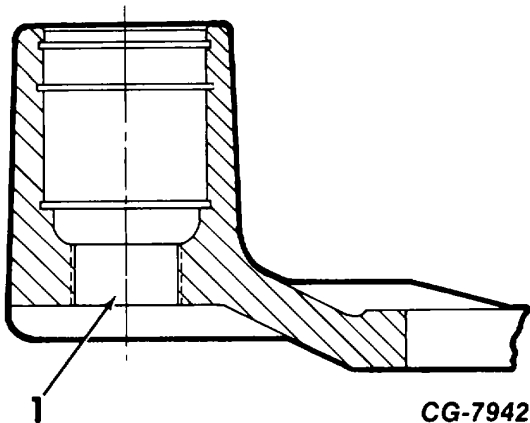

Figure 36. - Rework of Idler Bracket
1. To facilitate removal of the tool, the pipe plug hole (1, Fig. 36) in the idler bracket must be enlarged. Drill and tap hole with 5/16 inch drill to 3/4 inch NPT. Thoroughly clean reworked idler bracket to insure all machining chips are removed.